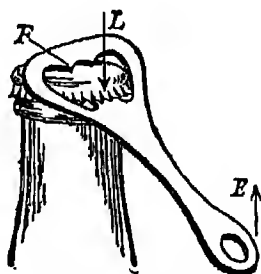

FIG. 146. A mineral bottle opener.
4. Opener for mineral water bottles closed by metal caps (Fig. 146).